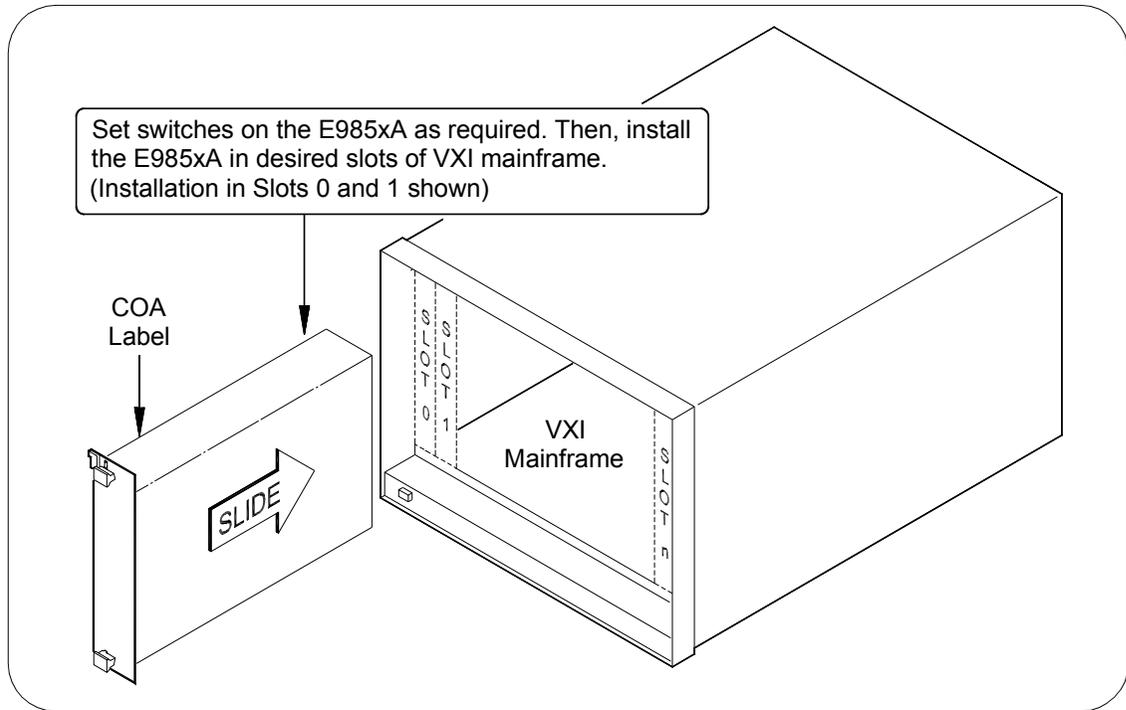

Figure 2-1. Installing the E985xA in the Mainframe
First, record the Microsoft *Certificate of Authenticity* (on the COA Label). Then, install the E985xA into the two desired slots in the mainframe, as shown in Figure 2-1. Make sure the E985xA is fully inserted into the backplane.
- 3 When prompted for the NT serial number, enter the serial number of the operating system from the *Microsoft Windows NT Embedded Workstation Certificate of Authenticity* attached to the left-side sheet metal of the E985xA (see Figure 2-1).